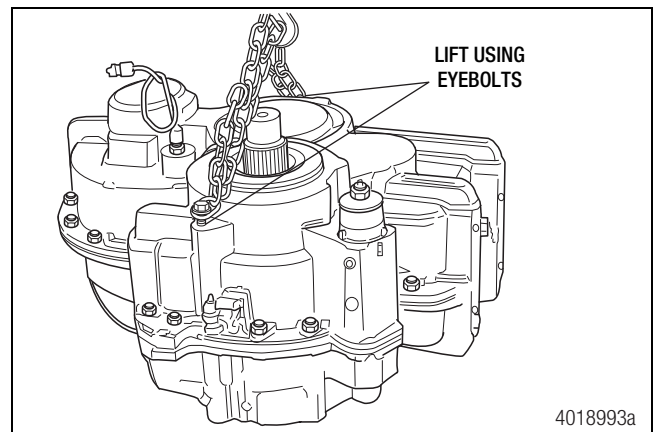

Figure 5.21
4. Attach a suitable lifting device to the eyebolts. Lift the rear cover from the front case. Figure 5.21.